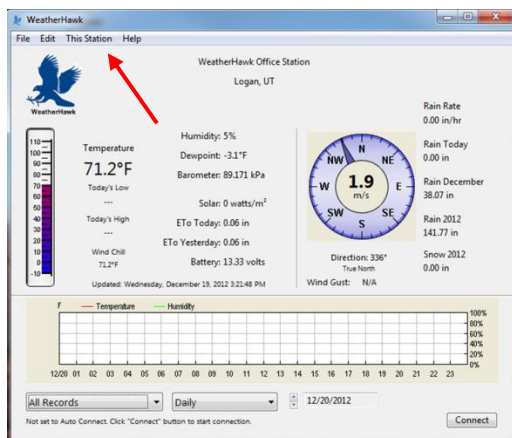

Figure 4a
- Click on the *This Station* menu and choose *Setup* from the drop down menu (Figure 4a and 4b).